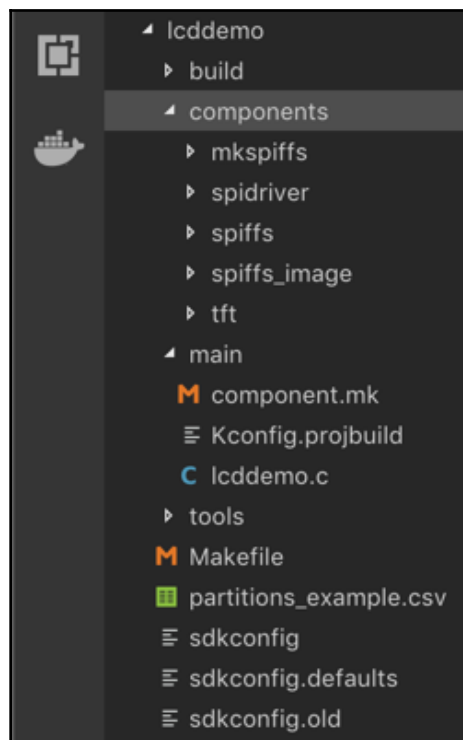

Figure 2-8: Project structure for `lcddemo`
3. Copy the contents of the components and tools folders into our project. The final result of our project structure can be seen in Figure 2-8: